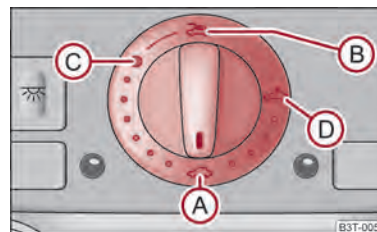

Fig. 29 Control dial for the power sliding/tilting roof
The sliding/tilting roof is operated by means of the control dial ⇒ fig. 29 and only functions when the ignition is switched on. The control dial has several positions. ▶
- Turn the switch to position  ⇒ fig. 29.
The sliding/tilting roof is fitted with a force limiter. If an obstacle (e.g. ice) prevents closing, the sliding/tilting roof stops and opens completely. You can close the sliding/tilting roof completely without force limiter by pressing the switch to the  position ⇒ fig. 29 at the front for as long as it takes for the sliding/tilting roof to close completely ⇒ .
It is necessary after each emergency operation to move the sliding/tilting roof into the basic position. Here you have to turn the control dial forward to the switch position **A** ⇒ fig. 29 and press for about 10 seconds. ■